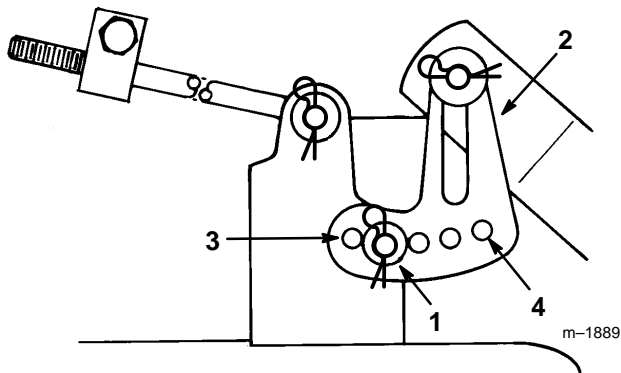

Figure 48
5. Remove the hair pin cotter and washer from the leveling bracket (Fig. 48). To level the blade(s), reposition the leveling bracket in a different hole and install the washer and hair pin cotter. (Fig. 48). A front hole lowers the blade height and a rear hole raises its height. Repeat this procedure on the opposite side.